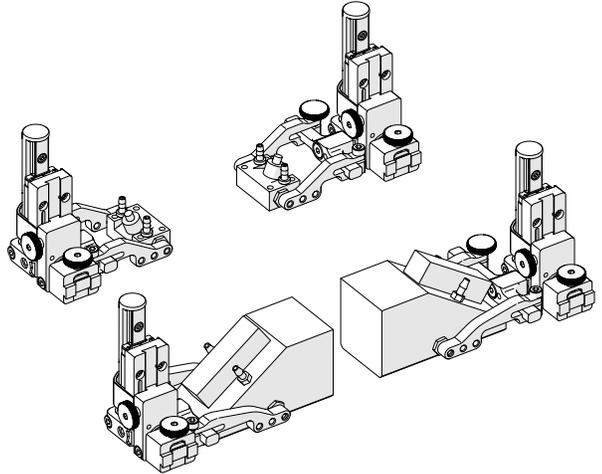

Fig. 88 - Mount probes and wedges to probe holders
1. Mount the appropriate phased array and TOFD wedges (*Fig. 88*) to the probe holders (see “Vertical Probe Holder” on page 14).